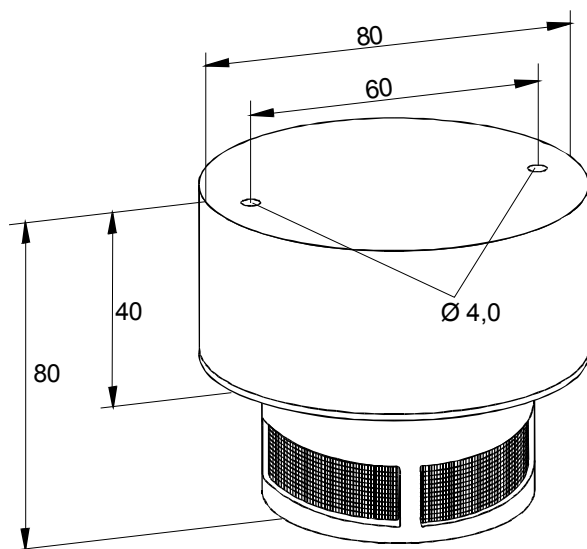

Fig. 2: Dimensions
- Screw the base to the ceiling using the fixing materials provided (see Fig. 2 for dimensions).
Dimensions	: see Fig. 2